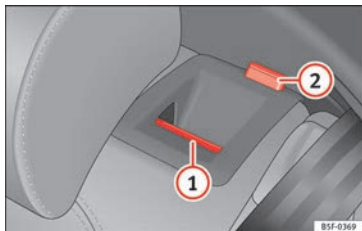

Fig. 111 On the rear seat backrest: release catch (1); red mark (2).
- Push the unlock button » Fig. 111 (1) forwards and at the same time lift the backrest.
- The rear seat backrest is not engaged when the red marking of the button (2) is visible.
The rear seat backrest is not engaged when the red marking of the button » Fig. 111 (2) is visible.
- Lift the backrest and press it firmly into the lock until it engages » Fig. 111 (2).
- It should not be possible to see the red mark of the unlock button (2).